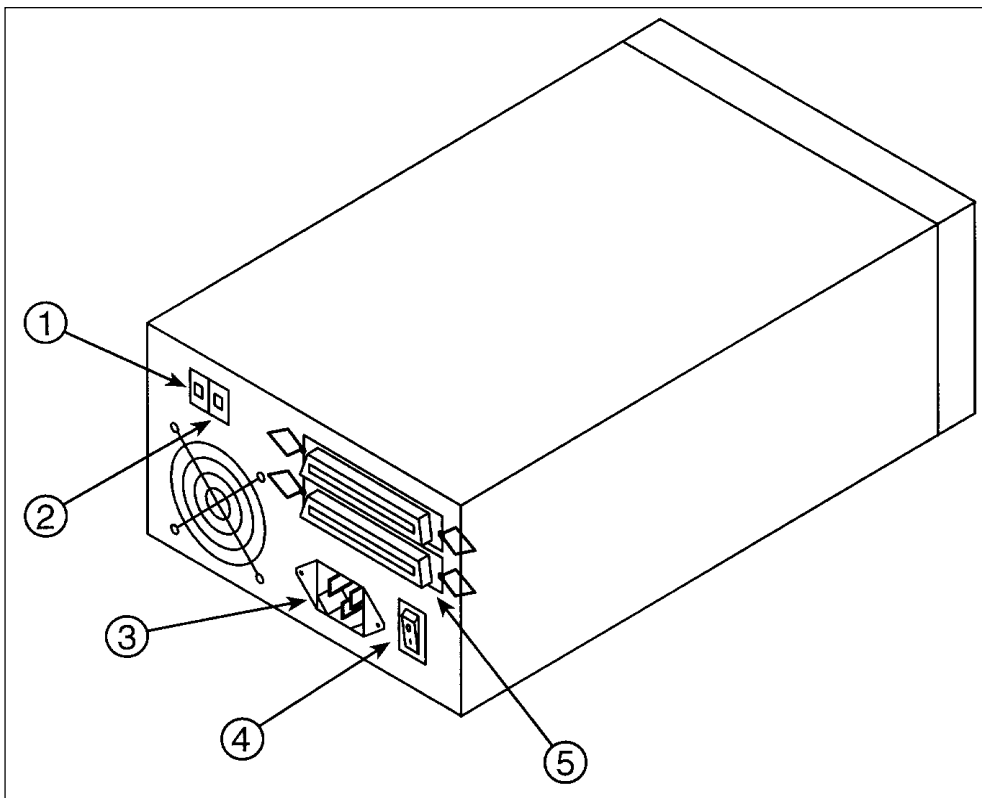

Figure 1-1: Rear Panel Features
2. Locate the SCSI ID switch on the rear panel of the disk drive. Refer to Figure 1-1, "Rear Panel Features."